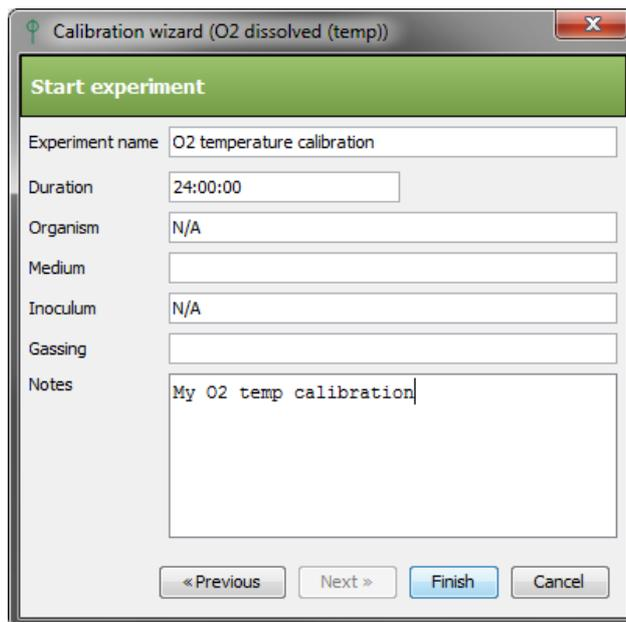

Fig. 32: Start experiment step
- Fill and confirm the calibration experiment properties (Fig. 32)